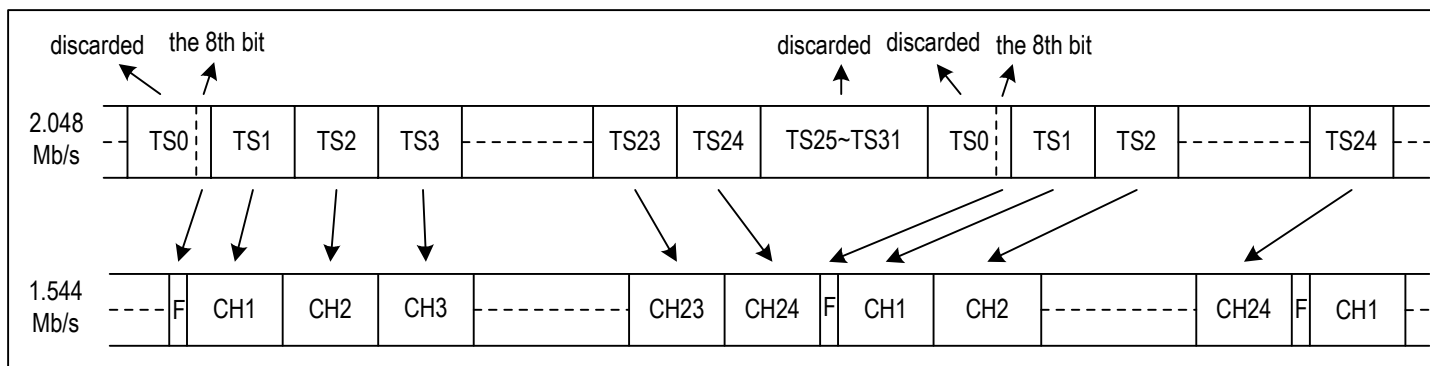

Figure 27. E1 To T1/J1 Format Mapping - Continuous Channels Mode
- T1/J1 Mode E1 Rate per Continuous CHs (refer to Figure 27): TS1 to TS24 of Frame N on the system side are converted into Channel 1 to Channel 24 of Frame N to the device. The 8th bit of Frame N on the system side is converted into the F-bit of Frame N to the device. The first 7 bits and TS25 to TS31 on the system side are all discarded.